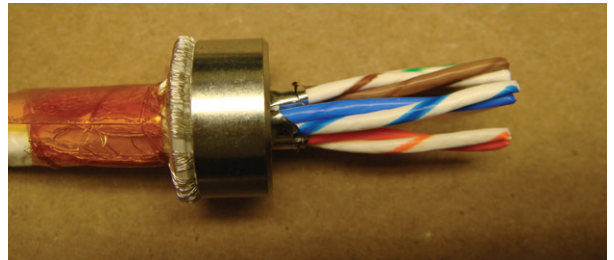
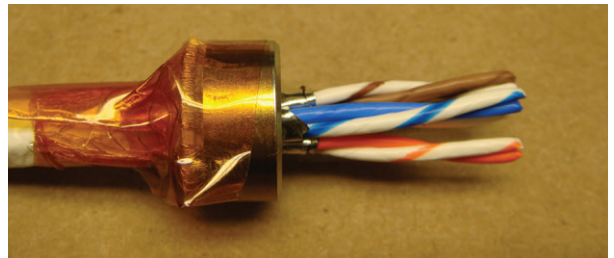

Figure 22: Fitting the compression sleeve
Figure 23: Taping the compression sleeve
11. Fit the compression sleeve over the shield wires and support sleeve (Figure 22). Then, tape the compression sleeve in place (Figure 23).